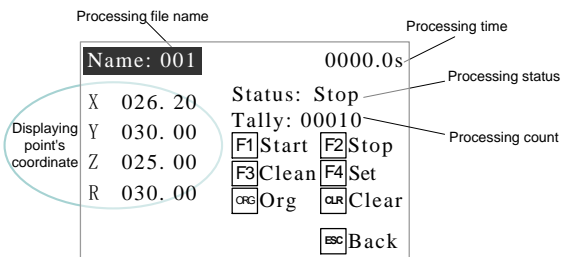

Fig. 3-6-1: File Processing Interface
In file processing interface (Fig. 3-6-1 & 3-6-2), it can do start work, stop work, clean, set, clear, return to origin point and set parameters etc.
2. During download, it displays “downloading”. When download finished, it comes into the file processing interface (Fig. 3-6-1). It can do process.